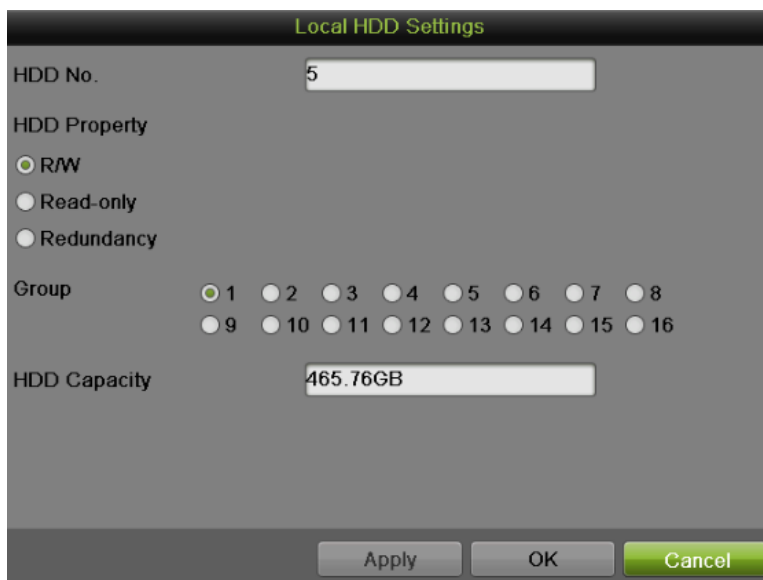

Figure 200 Local HDD Settings
- 1) Select a HDD and click  to pop up the Local HDD Settings menu as shown in **Figure 200**.